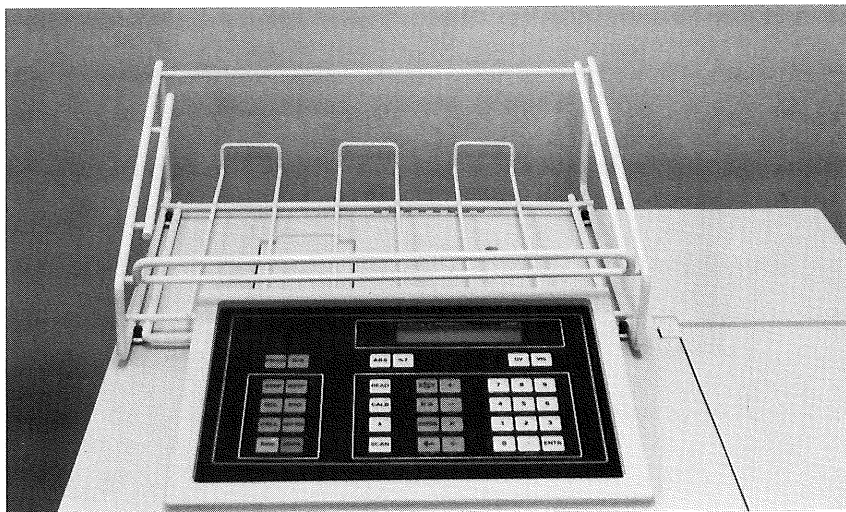

Figure 19.
30. Place the printer stand on the instrument, so that it is seated firmly around the keyboard, or set it next to the instrument. See Figure 19.